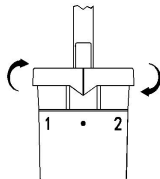

Figure 2
3. Rotate the lid on the jar to align the arrow on the lid with any open (●) position for normal suctioning (see Figure 2).